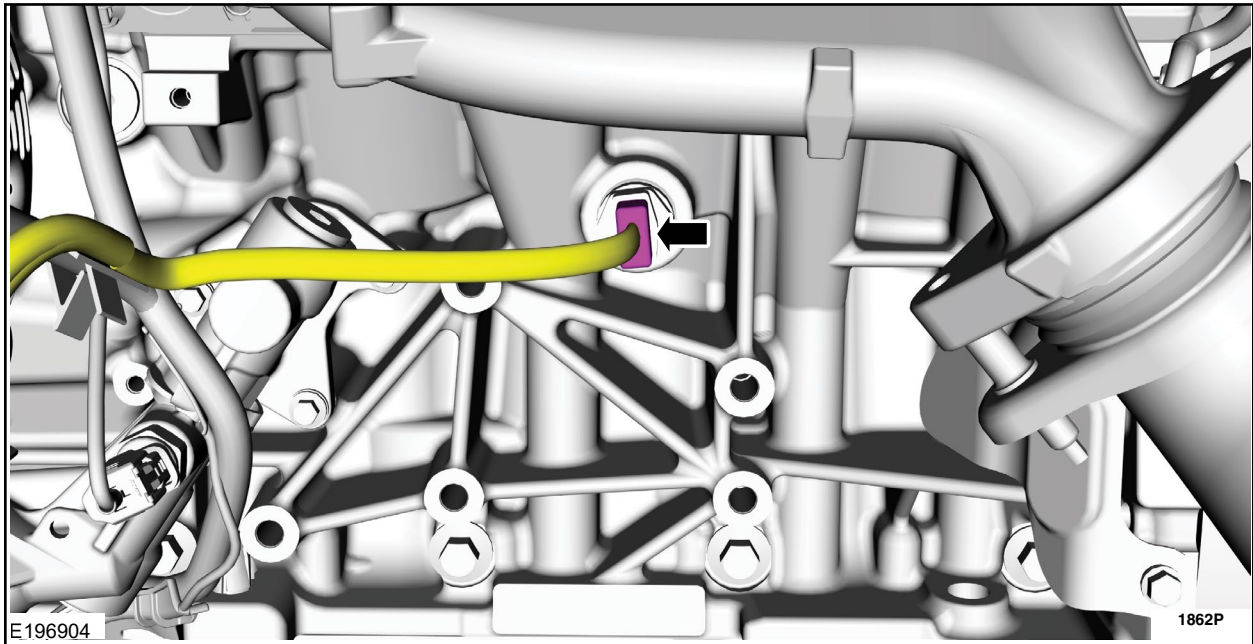

FIGURE 8
2. Disconnect the block heater electrical connector. See Figure 8.
7. Connect the *new* wire assembly to the block heater element. See Figure 8.